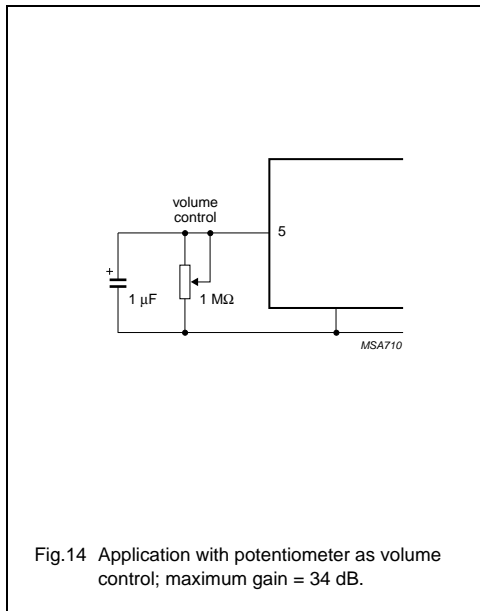

Fig.14 Application with potentiometer as volume control; maximum gain = 34 dB.
- The DC volume control can be configured in several ways. Two possible circuits are shown in Figs 14 and 15. The circuits at the volume control pin will influence the switch-on and switch-off behaviour and the maximum voltage gain.